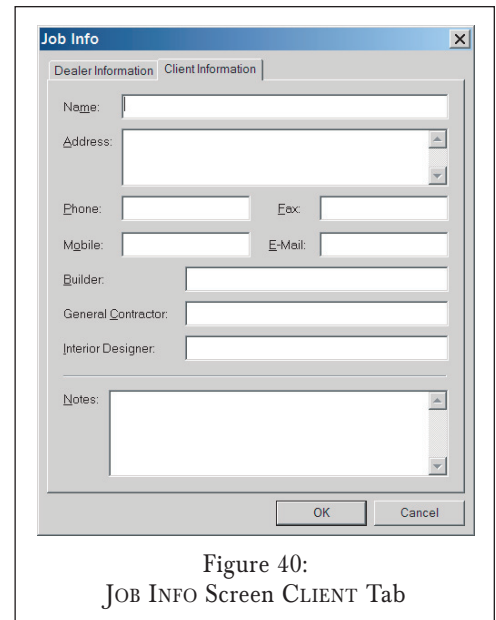

Figure 40:
- The CLIENT tab (Figure 40) gives you a place to record your client's contact information, along with information about the general contractor, interior designer, etc. Like the DEALER information, the CLIENT information is saved only in the system program file in your computer and is not transferred to the DAB1.